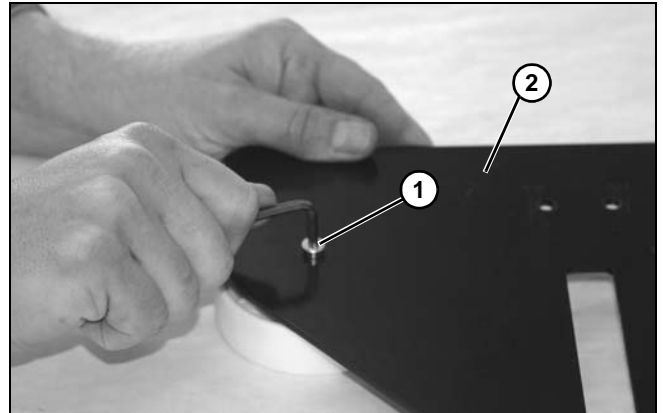

Figure 108
8. Remove socket head screw (Figure 108, item 1) on weighted take-up plate assembly (Figure 108, item 2).